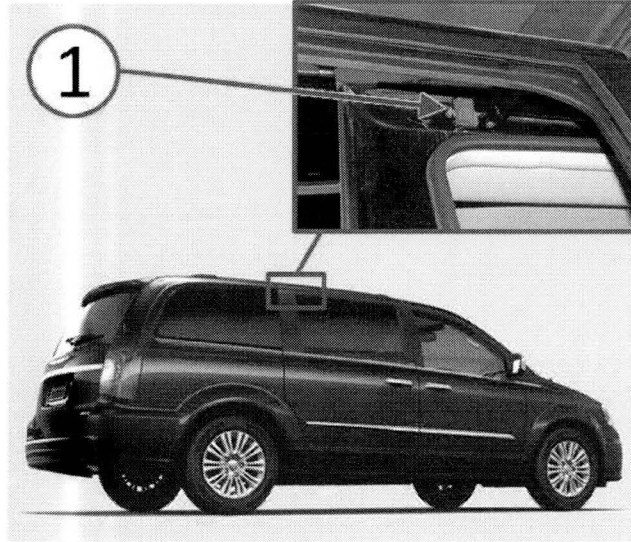

Fig. 1 Remove Bumper
3. Open the right rear sliding door and remove the rubber bumper (Fig. 1) from the rear end of the upper door track, then close the door.